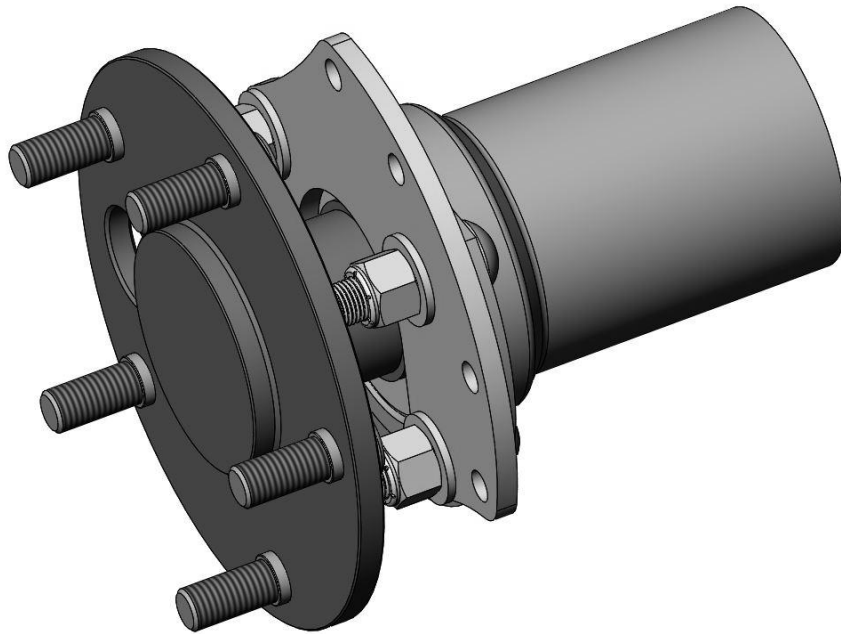

Figure 3 – Axle Re-installed w/Primary Caliper Mounting Bracket
6. Reinstall the axle shaft into the housing. Follow this by installing the Primary Caliper Mounting Bracket over the previously installed 1/2"-20 x 1.500" Button Head Bolts. Once everything is in place, install the 1/2" SAE Flat Washers and 1/2"-20 Nyloc Lock Nuts and tighten to 90 lb/ft. **NOTE:** Install the caliper bracket so that it will position the caliper to the rearward side of the axle housing. Refer to Figure 3 on the next page for reference.